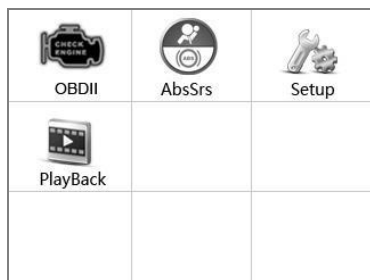

Figure 3.1
- 4) Power up the scan tool, and wait for the **Main Screen** to appear. (Figure 3.1)
- 1) Use the **LEFT/RIGHT** scroll button to select **Playback** from **Main Screen** (Figure 3.1), and press the **OK** button. Wait for the **Review Data** screen to appear.